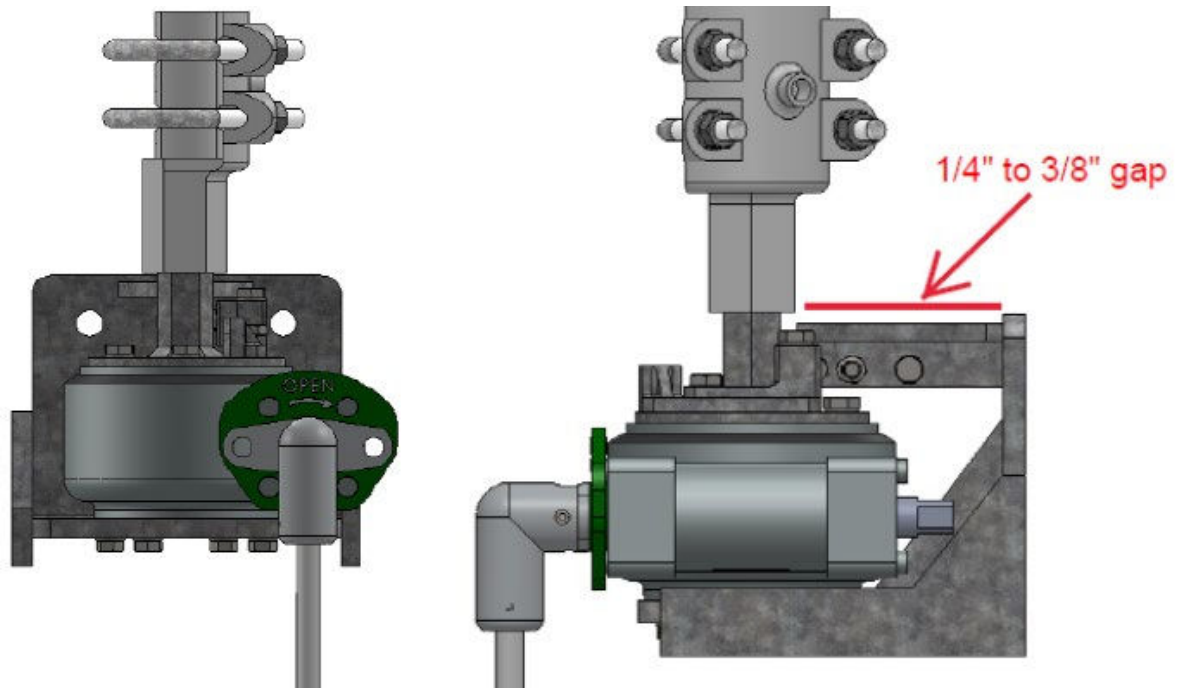

Figure 15: Type SEGO (Safety Enhanced Gear Operator)
5. After mounting all op-mech components, match-mark all clevis connections, the adjustable arm, and the switch operating devices' coupling, so that any slippage occurring during trial operations can be readily detected. Refer to **Figure 15**.